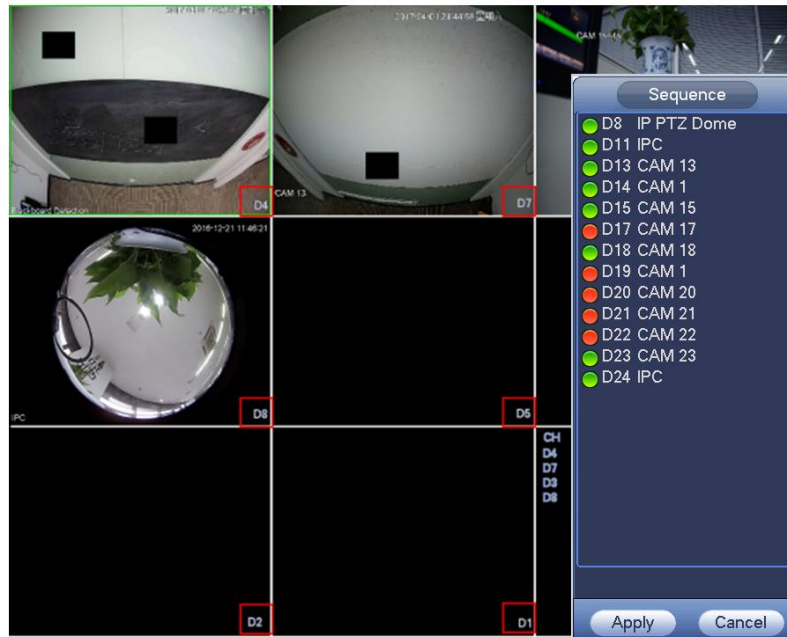

Figure 4-65
- Check the channel number at the right bottom corner to view the current channel sequence. See Figure 4-65.